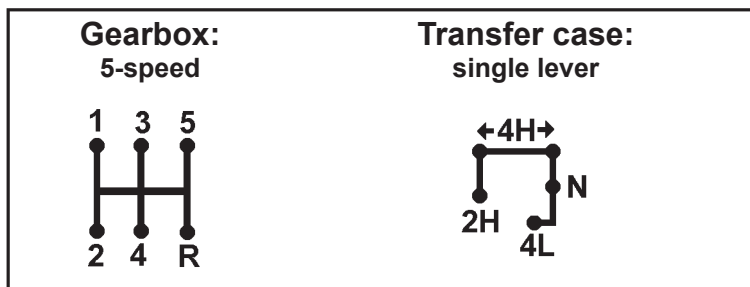

Fig. 3.4. Positions of sticks of the gearbox and the transfer case:
- 17** — front axle and speed reduction gearing switch-on lever. (For lever positions, see Fig. 3.4);
- 19** — shift lever (for lever positions, see the shift lever knob and Fig. 3.4).